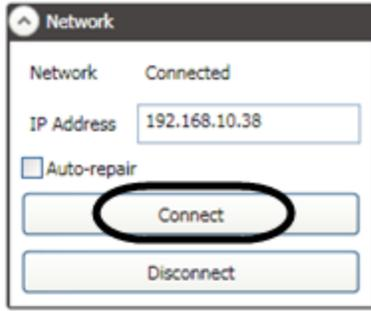

Figure 201
2. In the **Network** section of the **Stagehand Editing Pane**, click the **Connect** button (Figure 201).